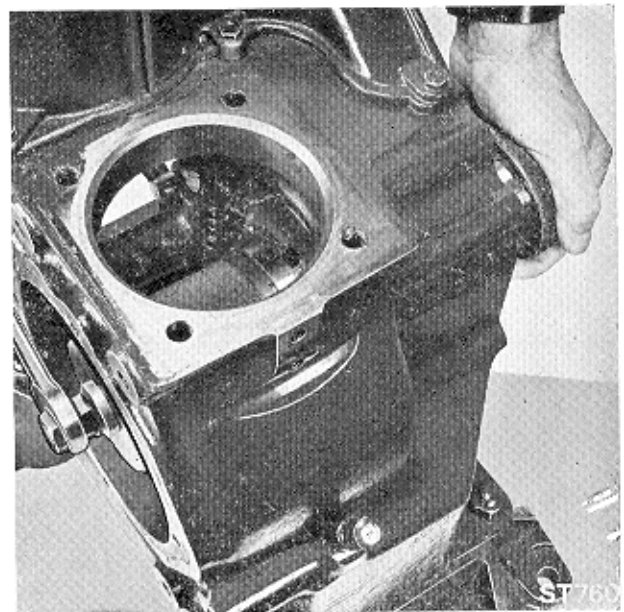

Fig. 130. Removing Main Bearing
**Removing Main Bearing (Fig. 130)**
- (a) Fit correct bearing locating ring (3) on to plug (1).
- (c) Fit sleeve (2) inside crankcase with the locating lug positioned in the thrust washer locating groove in crankcase.
- (d) Push bolt (8) through centre of spacer (6) with recessed face of spacer nearest the head of bolt.